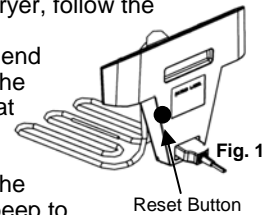

Fig. 11
- Using the back end of a pen, push the re-set button that is located on the back of the control panel. The deep fryer will beep to indicate that it has been re-set. (Fig. 11)